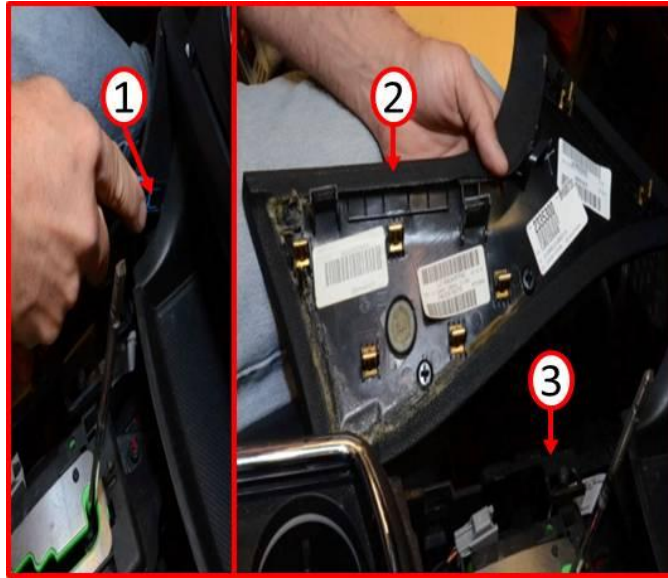

Fig. 3 Console Side Cover Removal
4. Using a trim stick gently pry between the front console storage bin (1) and the floor console side close out panel (2) to release the two snap retainers that secure the close out panel to the instrument panel and remove both console side close out panels (Fig. 3).